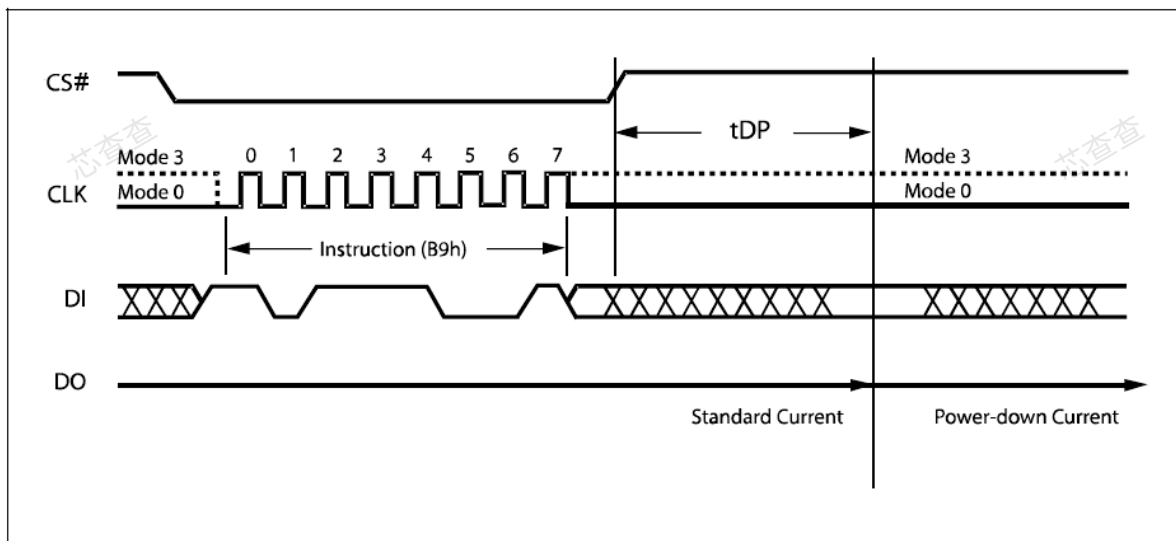

Figure 23. Deep Power-down Instruction Sequence Diagram
The instruction sequence is shown in Figure 23. Chip Select (CS#) must be driven High after the eighth bit of the instruction code has been latched in, otherwise the Deep Power-down (DP) instruction is not executed. As soon as Chip Select (CS#) is driven High, it requires a delay of t_{DP} before the supply current is reduced to I_{CC2} and the Deep Power-down mode is entered.